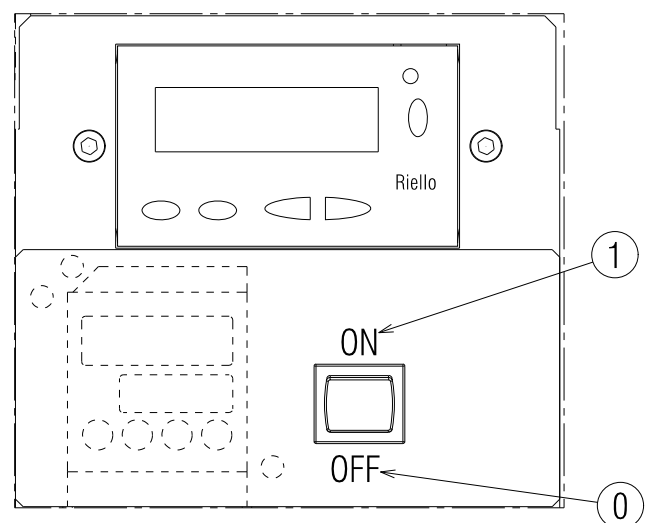

Fig. 30
Close the thermostats/pressure switches and set the switch of Fig. 30 to “1/ON”.
- put the switch of Fig. 30 to “0/OFF” and wait until the control box carries out the switching off phase;